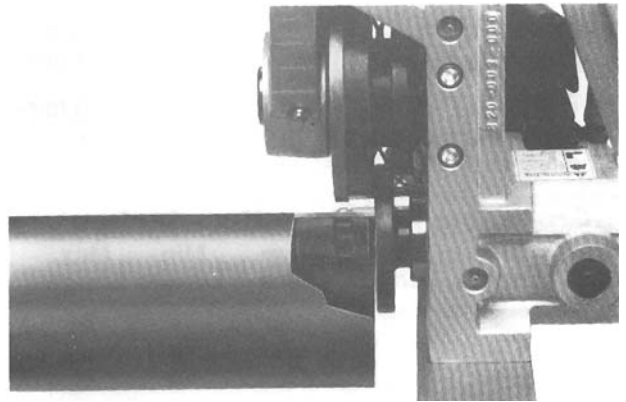

Figure 9 – Close-Up of Pipe Against Drive Roll Flange
3. Square pipe and pipe support to roll groover making sure pipe is flush against drive roll flange. (*Figure 9*)